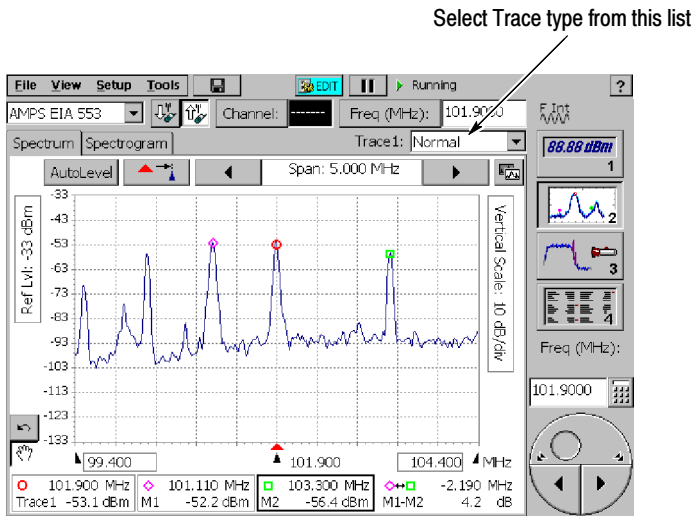

Figure 3-3: Setting the trace type
- Select the desired trace type from the drop-down list. See Figure 3-3.